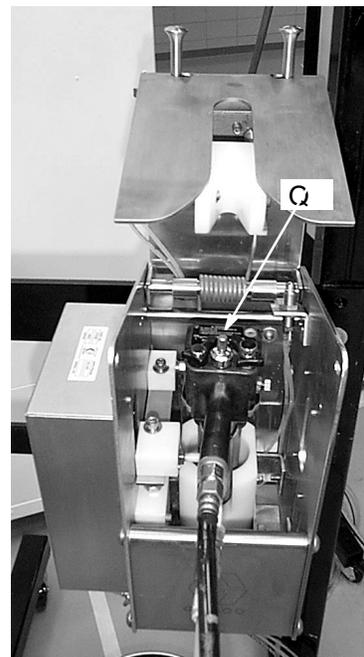

Fig. 21
3. Open the Gun Flush Box door. Place the gun (Q) in the box and close the door. See Figs. 21 and 22.